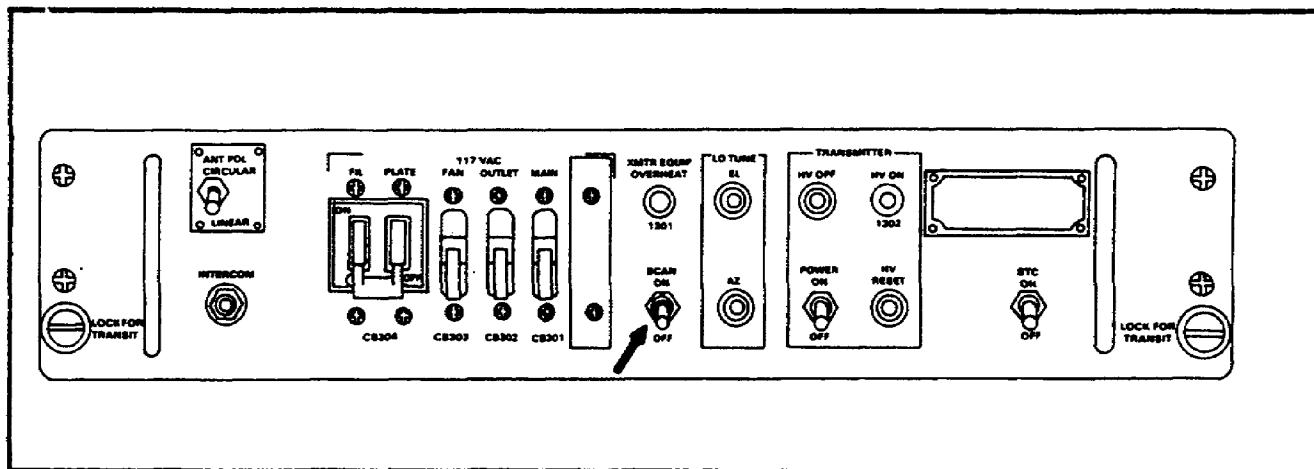

Figure 4. Power distribution panel SB-1116/FPN-40.
(See Figure 4.)
a. Ensure SCAN switch is in the OFF position and surveillance-final approach-height FINDER switch is in the surveillance position. (See Figures 4 and 6.)